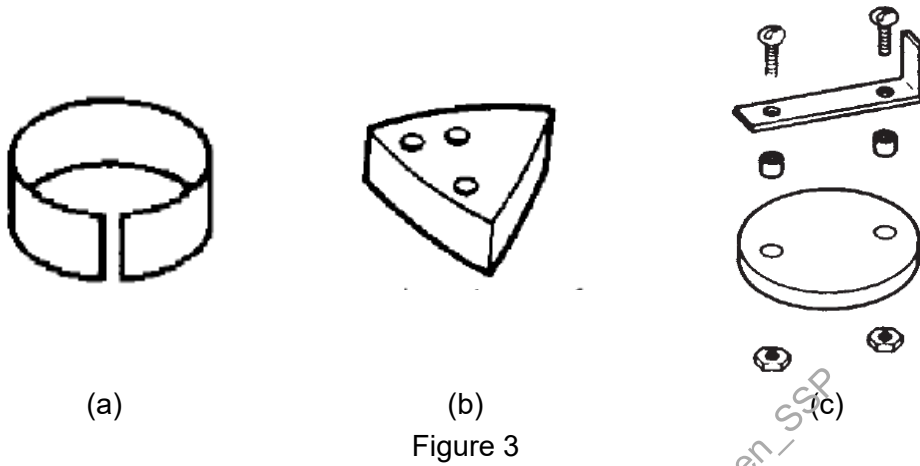

Figure 3
C5. Suggest and justify the suitable modifications on the design of the following components as shown in figure 3 to ensure proper assembly with minimum effort. (10)